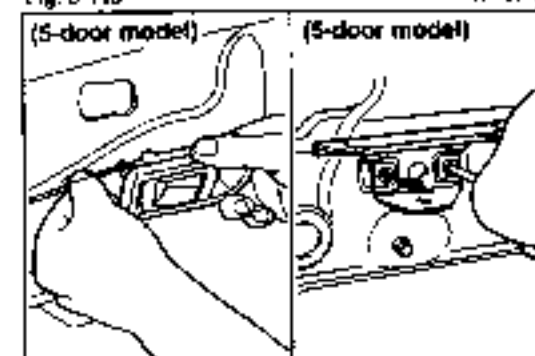

Fig. 9-116
- (5-door model: See Fig. 9-116.)